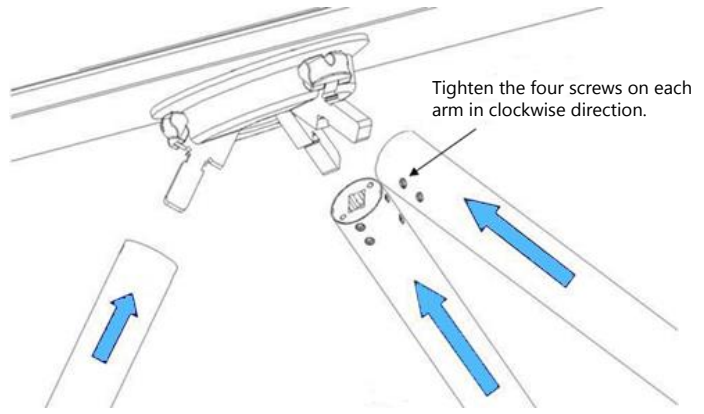

Figure 2-2
2. Insert the arms to the connection points, and use the Hex key to fasten the four countersunk screws on each arm, as shown in figure 2-2.